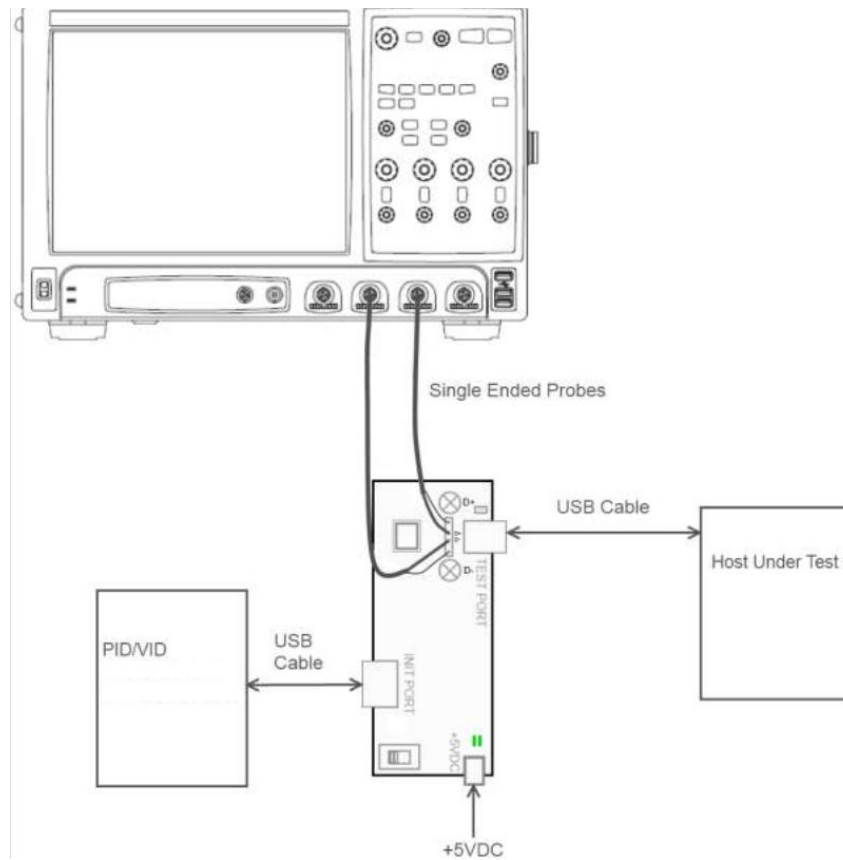

Figure 73. Host CHIRP Timing Test environment
2. Connect the equipment and test fixture as shown in Figure 73.